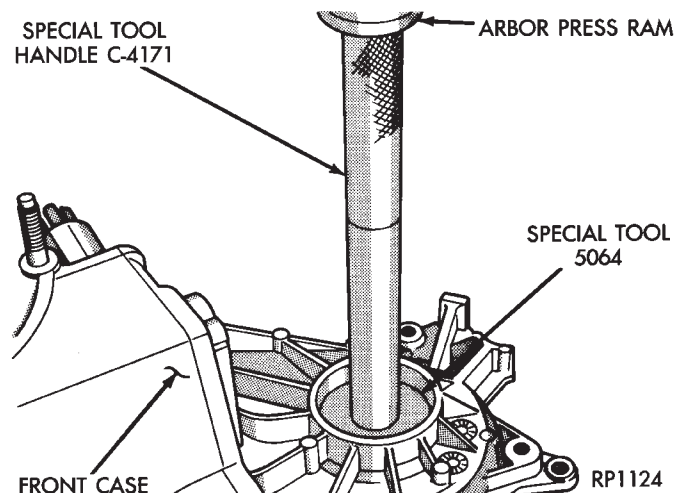

Fig. 30 Installing Output Shaft Front Bearing
(4) Tap old front output shaft bearing out of front case with plastic mallet. Install new bearing with Tool Handle C-4171 and Installer Tool 5064 (Fig. 30).